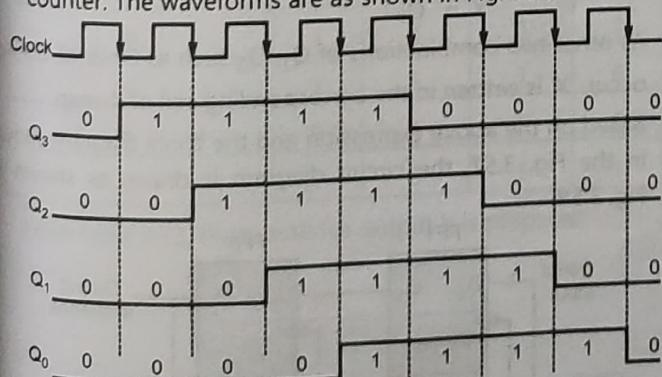

Fig. 3.53 : Waveforms of Johnson counter
- From table 3.28 it is clear that the number of distinct states in the operation of this counter is eight. Therefore it is a mod 8 counter. In general, every n-bit Johnson counter is a mod 2^n counter. The waveforms are as shown in Fig. 3.53.
- As shown in Fig. 3.53 square waveforms are obtained at each flip flop output.